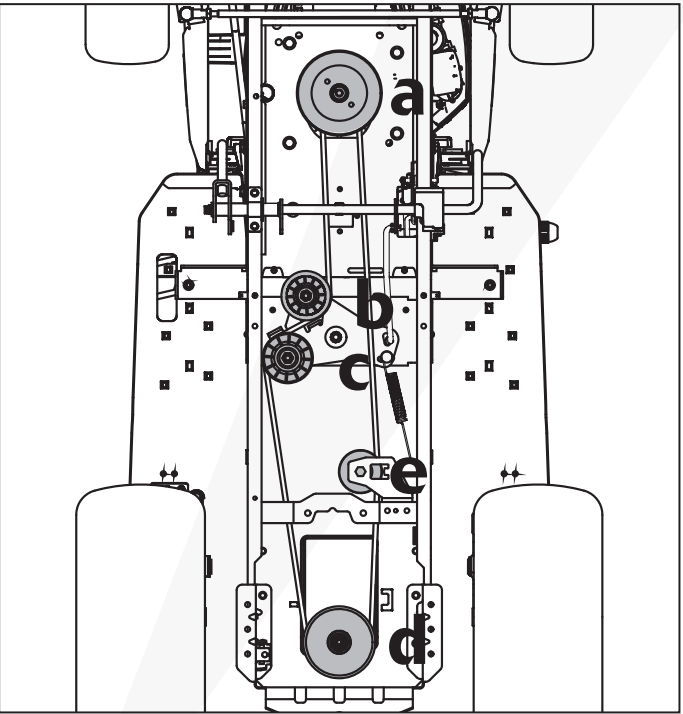

Fig. 32
2. Remove the drive pulley assembly (a, Fig. 32) by removing the bolt that fastens it to the engine output shaft.
3. Remove the three pulleys (b, c, e Fig. 32) by removing the nuts that fastens them to the mounting bracket.
4. Slip the belt off the transmission pulley. (d, Fig. 32)